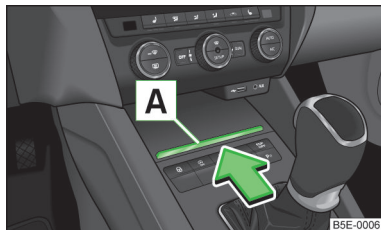

Fig. 62
► Press on the edge of the roof **A** » Fig. 62 in the direction of the arrow.